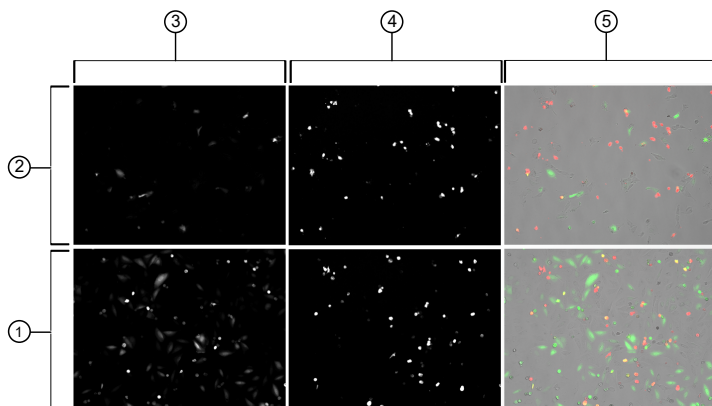

Figure 6 GFP compatibility with CellEvent™ Caspase-3/7 Red Detection Reagent signal
- **Multiplex-enabled**—Combine with other fluorescent reagents to detect other proteins of interest or to confirm apoptosis in the same cell or cell population (see Figure 6).
Apoptotic cells with activated caspase-3/7 show bright green or red nuclei, while cells without activated caspase-3/7 exhibit minimal fluorescence signal (see Figure 6).